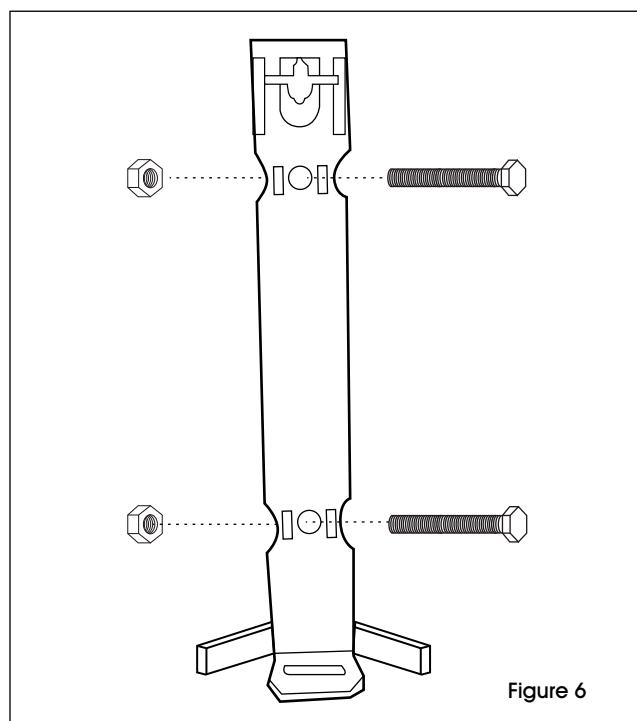

Figure 6
3. Use the strapping kit included with the receptacle (See Existing Pole Mounting) to attach the receptacle to the pole or use nuts and bolts (not included) to attach the receptacle through the pre-drilled holes. (See Figure 6)